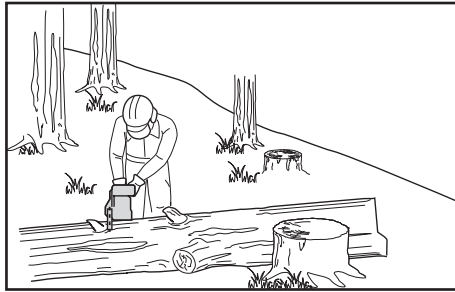

Fig. 33
- When bucking on a slope always stand on the uphill side of the log (Fig. 33). When “cutting through”, to maintain complete control release the cutting pressure near the end of the cut without relaxing your grip on the product handles. Don’t let the chain contact the ground. After completing the cut, wait for the saw chain to stop before you move the product. Always stop the motor before moving from tree to tree.